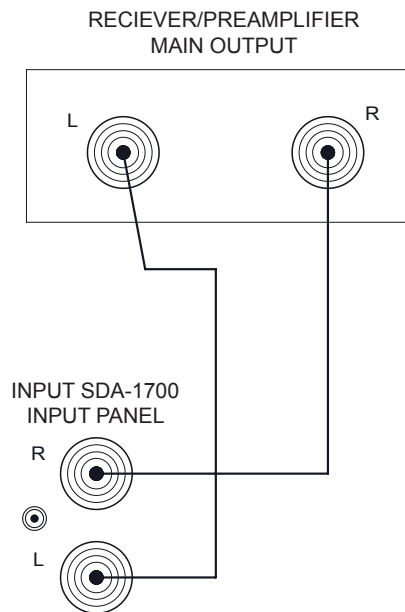

Figure 5
1. Connect a dual-channel RCA patch cable between Left & Right main outputs of the receiver/preamplifier and to the respective INPUT connectors on the SDA-1700 rear panel, as shown in Figure 5.